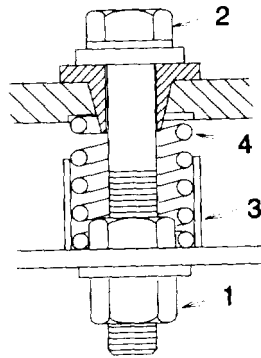

Figure 4-41. Compressor Mount
- c. Loosen four compressor mount locknuts (1, fig. 4-41). Tighten four screws (2) just to the point where shipping bracket (3) cannot be removed from spring (4). Tighten four locknuts.